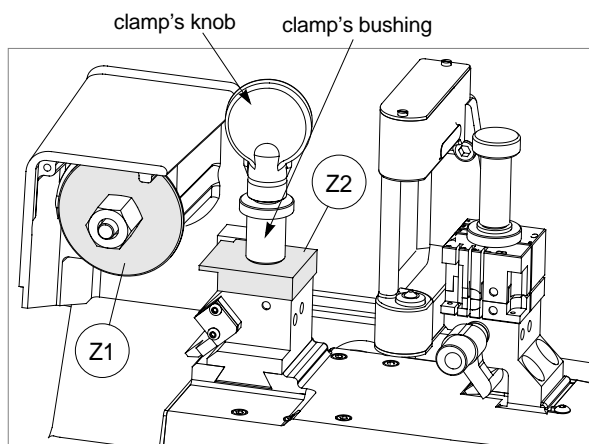

Fig. 34
5) insert the (Z2) template, the clamp's bushing and secure them with the clamp's knob (fig. 34).
6) remove the cutter (ch.4.6, page 16) and insert the (Z1) template into place (fig. 34).
8) manually move the X and Y axis up until the (Z1) and (Z2) templates make contact (see fig. 34 - top view).
ATTENTION: check that both the (Z2) and (Z1) templates make perfect contact (fig. 34). If this does not occur the display will show an error message.